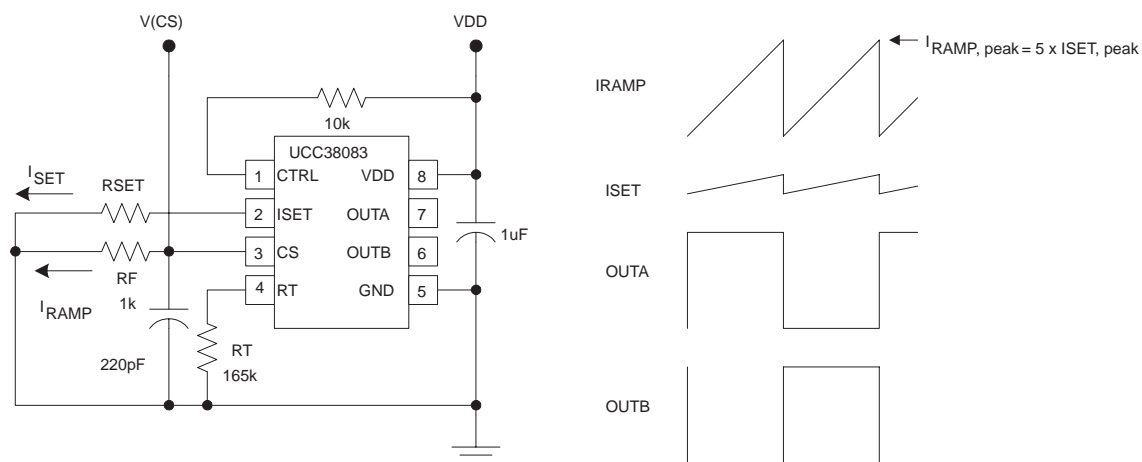

Figure 1. Full Duty Cycle Output
**ISET:** Program the slope compensation current ramp by connecting a resistor, RSET, from ISET to ground. The voltage of the ISET pin tracks the 1.5-V internal oscillator ramp, as shown in Figure 1.